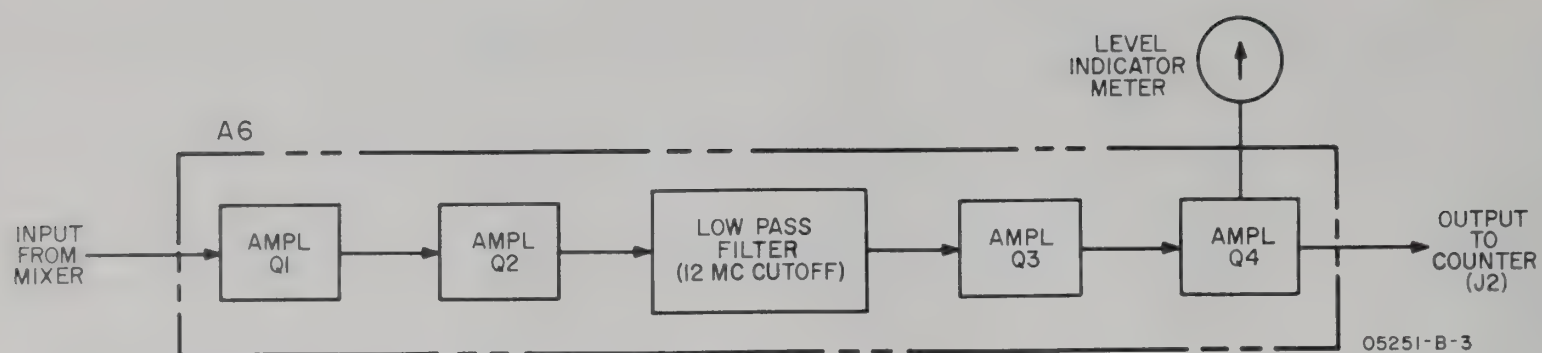

Figure IIA-2. Video Amplifier (A6)
IIA-15. The output of the mixer circuit is amplified by transistors A1Q1 and A1Q2 and is fed to the 12-Mc low-pass filter network (see Figure IIA-2). This filter passes any signal frequency below approximately 12 Mc and attenuates all higher frequency signals. The low-pass filter output is amplified by A1Q3 and fed to the last transistor amplifier, A1Q4, which provides both the output to the counter and the drive for the level indicator meter. The limiter diode, A1CR1, prevents the amplitude of the video amplifier output signal from exceeding approximately 300 mv RMS so that counter input circuits will not be overloaded. The low frequency limit of the video amplifier, determined by the bypass and interstage coupling networks, is approximately 100 kc. The converter output signal to the counter, when converter is properly tuned, will be between approximately 100 kc and 12 Mc and will have an amplitude that is less than approximately 300 mv RMS.
c. Adjust controls as shown in Figure IIA-2.